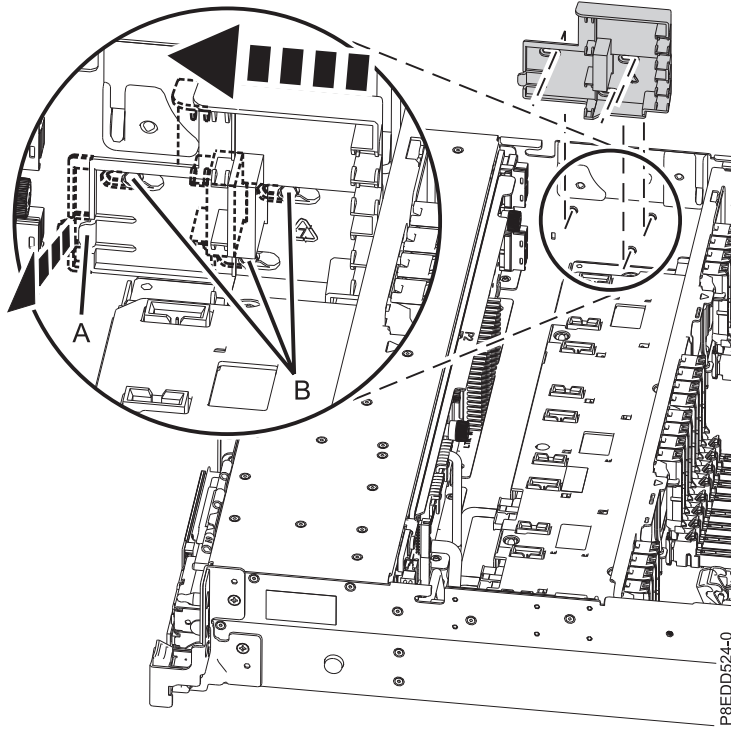

Figure 117. Removing SAS cable guide
26. Remove the SAS cable guide. Grasp the tab (A) of the guide and pull it out and away from the side of the chassis. Pull the guide toward the front of the system until the slots on the guide clear the pins (B) on the side of the chassis, then remove the guide. See Figure 117 on page 119.